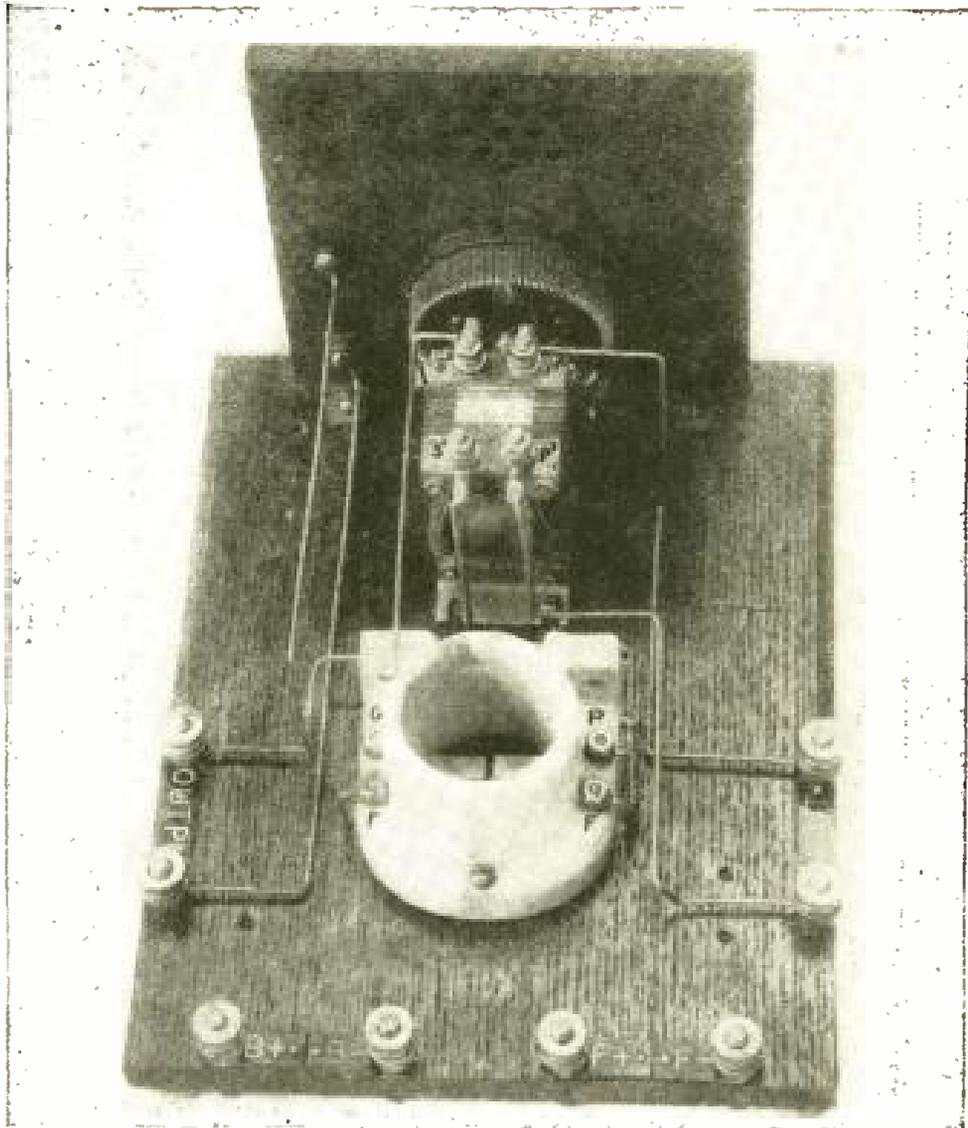
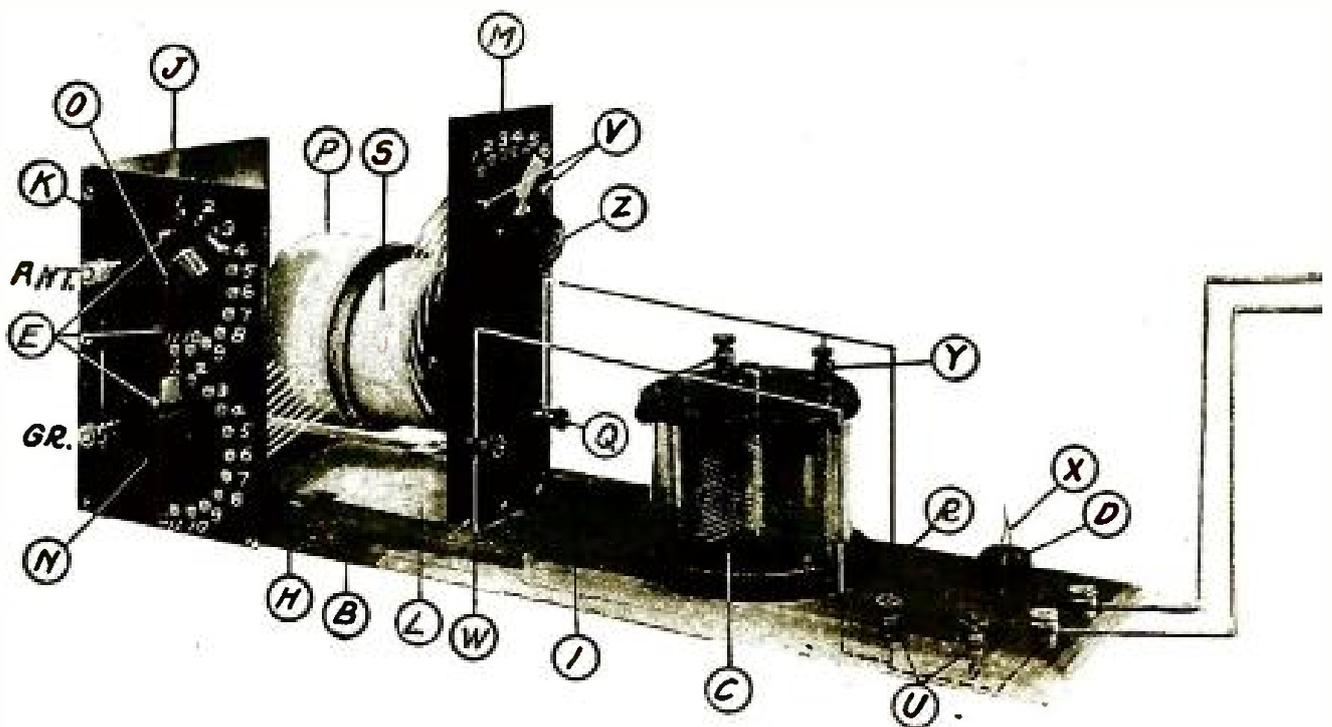

FIGURE 2
FIGURE 3
The audio frequency amplifier unit as shown in Figures 1, 2 and 3 is composed of a baseboard BB and an upright panel A. On the baseboard BB is mounted an electron tube socket SS, an audio frequency amplifier transformer T and eight binding posts. On the upright panel A is mounted a filament rheostat R (the adjusting knob J is shown in Figure 3) and two telephone receiver binding posts, L and M. Figure 2 shows the arrangement of these parts. These directions tell how the various parts are assembled on the baseboard and panel. No description is given of the construction of any of the parts.
*The electron tube*—(See Figure 3.) The electron tube is a commercially available tube generally called an amplifier tube or "hard" tube.
The tube socket, SS, and the transformer T are next screwed to the baseboard. The exact location of these parts varies according to the particular type used. One may get an idea of the relative position of the several parts from Figure 2. The tube socket, SS, is mounted so that the two terminals marked G and P (Figure 1) are nearest the upright panel. Wood blocks are put under the socket SS, when necessary, so that the four terminals of the socket do not touch the wood baseboard. This is done by cutting off two round wood blocks just long enough to raise the socket terminals clear of the base, and mounting them so that the screws which hold the socket to the baseboard will pass through holes in the centers of the blocks.
If the two-circuit tuner and the electron tube detector are used with the audio frequency amplifier unit, the several parts are arranged and connected as shown in Figure 3. Two amplifier units are shown making a two-stage amplifier. If only one unit is used the connections are correspondingly simple. Increasing the number of "B" batteries used to supply voltage to the plates of the amplifier tubes will usually increase the intensity or loudness of the ampli-
If the single-circuit tuner and electron tube detector are used with the audio frequency amplifier, the arrangement of the parts is also similar to that shown in Figure 3, except that the single-circuit tuner replaces the two-circuit receiving set. The binding posts, 5 and 6, on the single-circuit tuner are connected to the electron tube detector binding posts Nos. 1 and 2 respectively.
The connections to the "A" and "B" batteries are the same as shown in Figure 3. Great care is taken to see that the "B" or plate battery is *not* connected by mistake to the binding posts marked F plus and F minus. This battery has too high a voltage for the electron tube filament and will burn it out.
The antenna and ground wires are connected as shown in Figure 3.
The two filament rheostat knobs marked J (Figure 3) on the two audio frequency amplifier units, and also the filament rheostat knob on the electron tube detector unit, are turned to the extreme left or to the "off" position. Two electron tubes marked E ("hard" or amplifier tubes) are inserted in the sockets of the amplifier units (Nos. 1 and 2) and a third
The telephone receivers are then removed from amplifier No. 1 and attached to amplifier No. 2. The wire is reconnected to the "output" binding post of amplifier No. 1. The connections are now as shown in Figure 3.